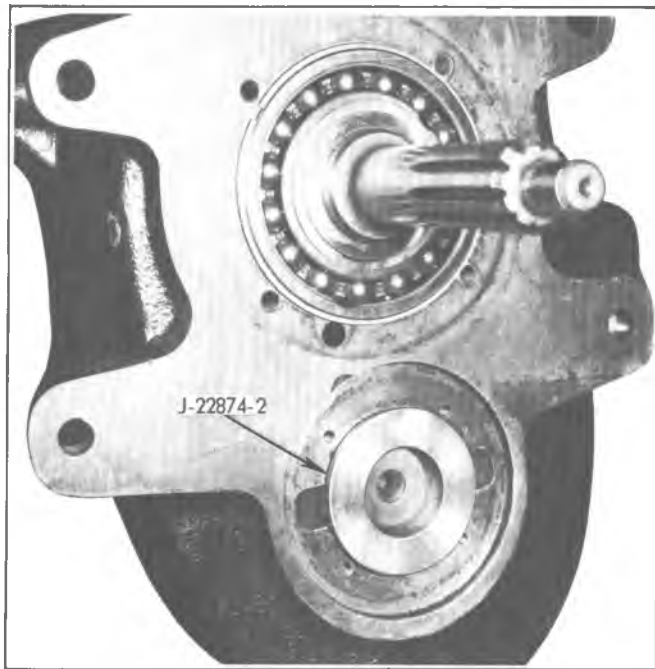

Fig. 7B-24L—Counter gear Front Support Tool
3. Install mainshaft assembly into case with rear of shaft protruding out rear bearing hole in case. Position Tool J-22874 in clutch gear case opening and engaging front mainshaft (Fig. 7B-23L). Rotate case onto front end.